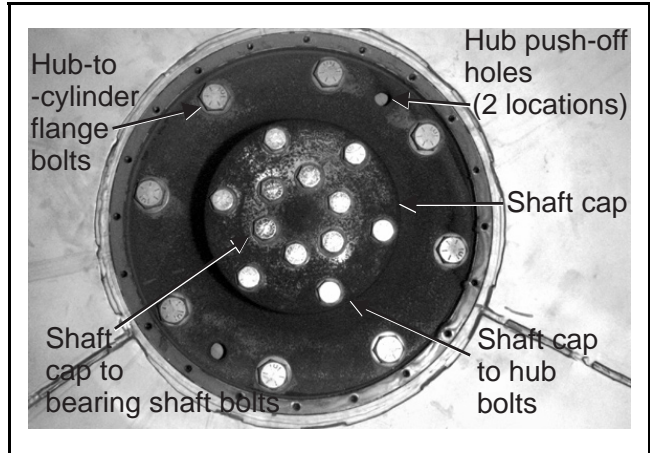
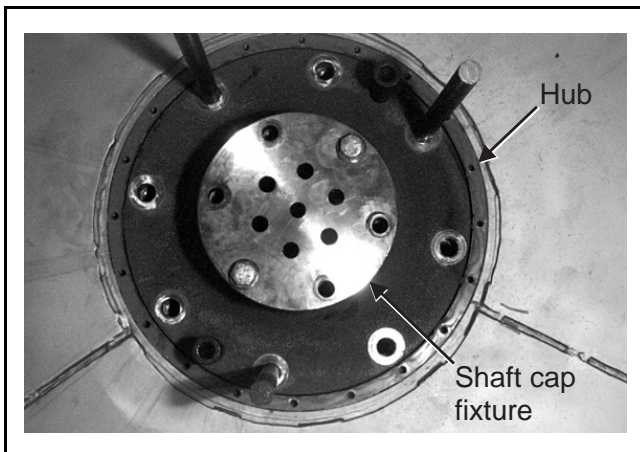

FIGURE 4 (MSSM0275AE)
FIGURE 6 (MSSM0275AE)
1. Remove three of the *hub-to-cylinder flange bolts* (FIGURE 4) and replace them with *guide pins* (supplied in kit) as shown in FIGURE 6. These *guide pins* support the hub during the seal holder and shaft sleeve replacement procedure. Remove the rest of the *hub-to-cylinder flange bolts* after the *guide pins* are in place.
2. Install two *hub push-off bolts* (FIGURES 4 and 6).
3. Remove the *shaft cap* (FIGURE 4) and replace with the *shaft cap fixture* (FIGURE 5) with the raised surface turned inward.
4. Install six *shaft cap fixture* push-off bolts (supplied in the kit), as shown in FIGURE 7. Alternately tighten the *hub push-off bolts* (FIGURE 6) and the *shaft cap fixture push-off bolts* to simultaneously force the hub off both the bearing shaft and the cylinder flange.